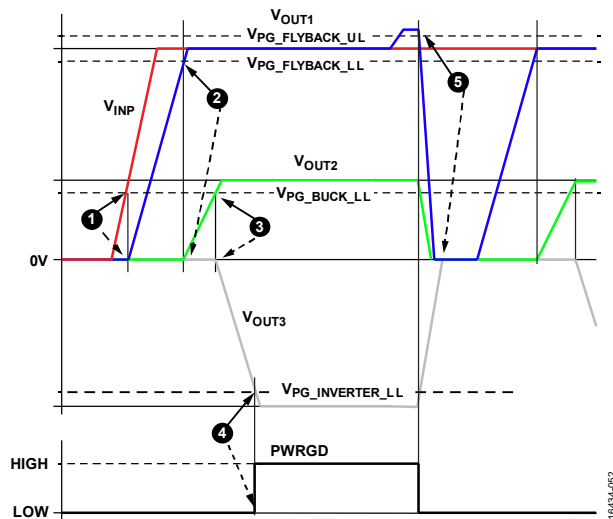

Figure 66. Power-Up Sequencing and PWRGD
The power-up sequence is as follows (see Figure 66):
1. The flyback regulator powers up first (see 1 in Figure 66).
2. When VOUT1 rises above the lower power-good threshold ( $V_{PG\_FLYBACK\_LL}$ ), the buck regulator turns on (see 2 in Figure 66).
3. When the buck regulator output (VOUT2) rises above the lower power-good threshold ( $V_{PG\_BUCK\_LL}$ ), the inverting regulator turns on (see 3 in Figure 66).
4. PWRGD is driven high when the inverting regulator output (VOUT3) is below the power-good threshold,  $V_{PG\_INVERTER\_LL}$  (see 4 in Figure 66).
5. If any of the three analog supplies move outside the power-good threshold ranges, PWRGD drives low after a short deglitch delay (see 5 in Figure 66).